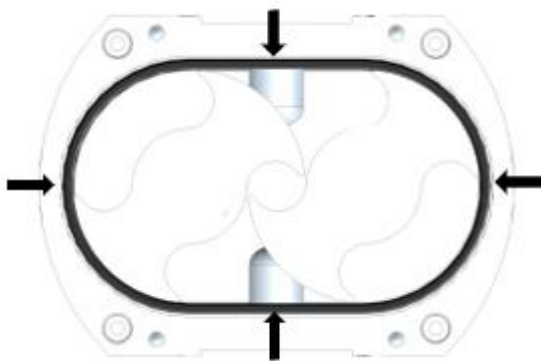

Figure 16 - Ultima end cover joint ring
- Press in, in 4 places first, see Figure 16, then press in the rest to avoid forming loops.